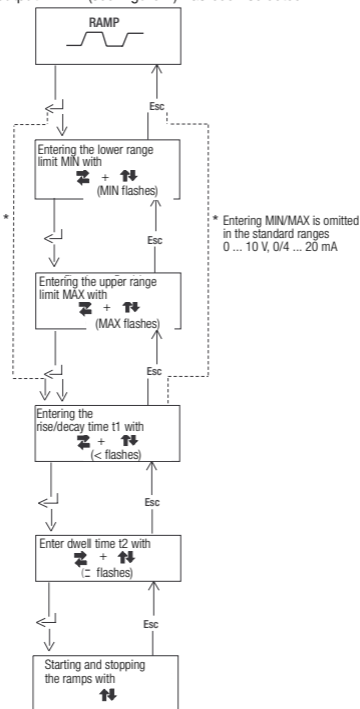

Figure 12 Menu Structure for Entering Ramp Parameters
Figure 12 shows the menu structure for entering ramp parameters after the method of output RAMP (see Figure 4) has been selected.
When all ramp parameters have been entered in accordance with the menu structure in Figure 12, the ramp is started and stopped with the keys  (3) and  (4).